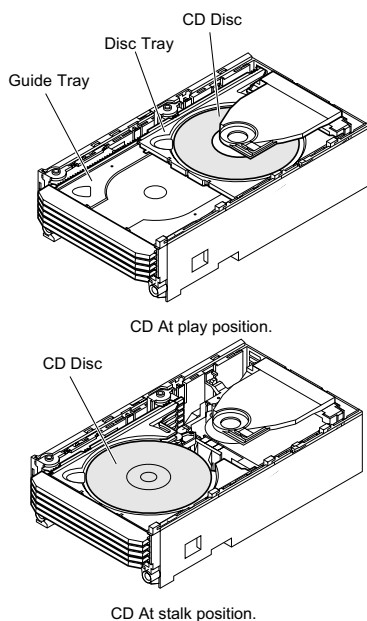
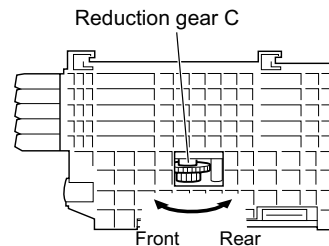

Figure 2
Figure 3
3.1. How to remove CD Disc (See Fig. 2~5)
1. When CD is at play position (Figure 2), rotate reduction gear C clock-wise as shown in Figure 3 Until disc tray is at stock position, then rotate further to eject the disc tray so that CD can be removed from the tray.